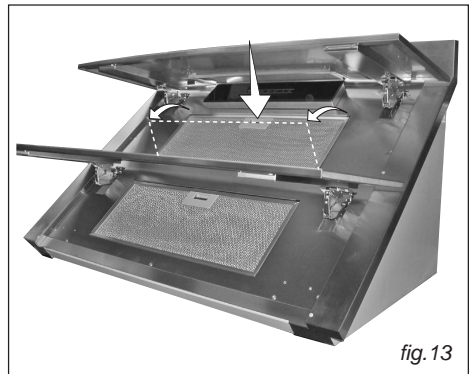

fig. 13
- Connect the air outlet pipe to the air vent of the hood. Use a flexible pipe and lock it to the air vent of the hood with a metal hose clamp - Fig. 13 (pipe and clamp are not provided).
### • **Removing the grease filter (fig. 13)**
Remove the grease filter by pushing the catch and turning it outwards (Fig.13).